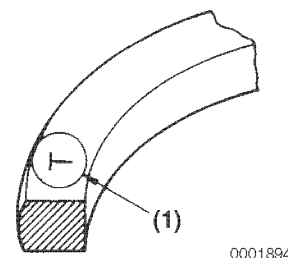

Figure 6-91
Note: The top and second piston rings must be installed with the stamped “makers mark” (**Figure 6-91, (1)**) facing the top of the piston. The “makers mark” may vary in appearance but will always be located on the top surface of the piston ring adjacent to the piston ring gap. The oil ring and oil ring expander can be installed either side up.